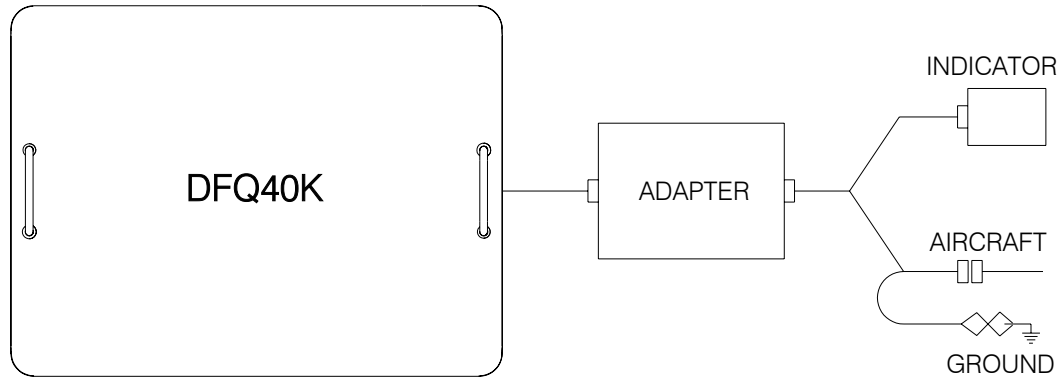

Figure 11 AIRCRAFT SYSTEM CALIBRATION, PREFERRED CONFIGURATION
(1) Position the equipment conveniently for the following procedures.
(2) Connect to the Test Set the Adapter Cable specific for the Aircraft being tested, as shown in Figure 11 or as directed in the Adapter Cable Instructions.
(3) Connect the Adapter Cable between the Indicator and the aircraft wiring plug.
(4) Connect the ground lead from the adapter (if so equipped) or from the Test Set **GND** receptacle, to a secure airframe ground.